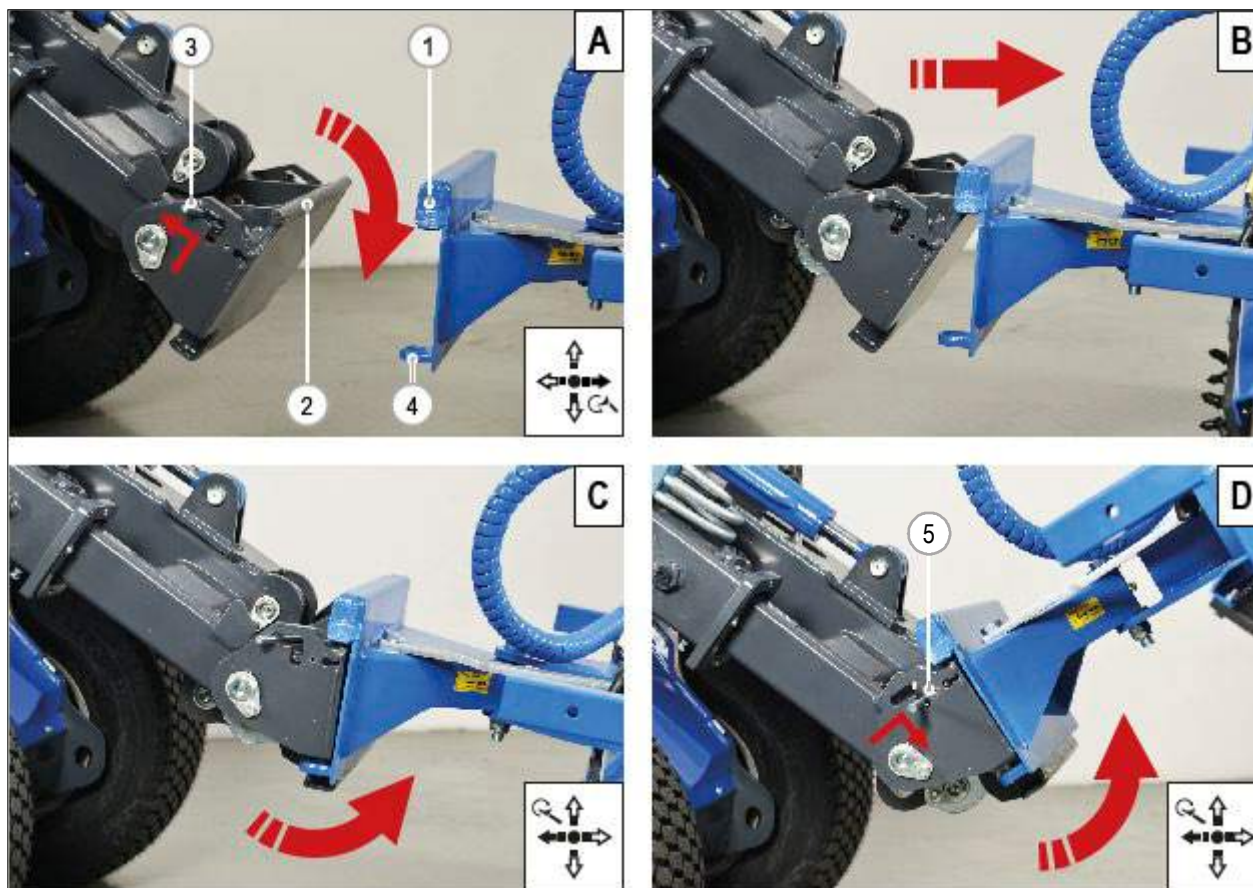

FIG. 24
- 6) Lift and push back the two levers (**FIG. 24 - Ref. 3**) placed on the quick coupler, in order to raise the hook plugs.
- 8) Operating carefully draw up the quick coupler to one of the attachment so as to go up the upper round profile (**FIG. 24 - Ref. 2**) in their curved seats of the attachment (**FIG. 24 - Ref. 1**).
- 9) Move slowly the multifunction joystick to the left, in this way the quick coupler leans backward, continue after lifting of a few centimetres the quick coupler and automatically the coupling system closes allowing the two plugs to fit in the seats of the attachment (**FIG. 24 - Ref. 4**).
- 10) Check visually the two levers (**FIG. 24 - Ref. 5**) are in low position. If not, it means the coupling was not successful.
- 4) Operating carefully draw up the quick coupler to one of the attachment so as to go up the upper round profile (FIG. 24 - Ref. 2) in their curved seats of the (FIG. 24 - Ref. 1) attachment.
- 1) Lift and push back the two release levers (**FIG. 24 - Ref. 3**) from the quick coupler in order to disengage the two plugs.